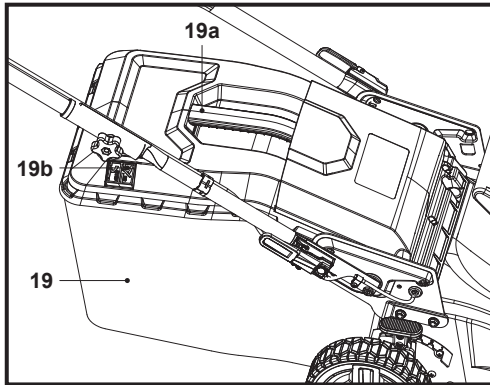

Fig. 12
1. When the hatch (19b) is opened the grass catcher (19) has sufficient volume left to collect grass (Fig. 12).